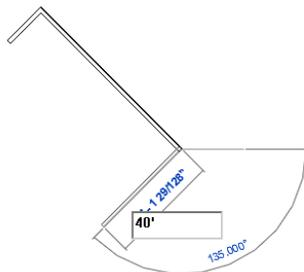

**Figure 3-43** Sketching the first inclined wall segment
- f. Select the **Line** sketching option and sketch the inclined wall profile using the **Chain** option, refer to Figures 3-43 through 3-49.
4. Enter the value **14'** (**4267 mm**) to specify the length of the first wall segment; the value is displayed in the edit box, as shown in Figure 3-43. Press ENTER to create the first wall segment of the specified length.